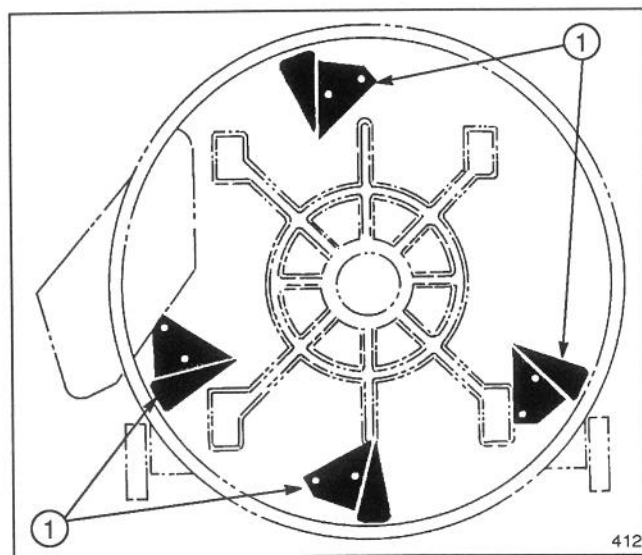

Figure 7
5. Align the remaining three kickers with holes in deck and secure in place with short capscrews and locknuts (Fig. 7).